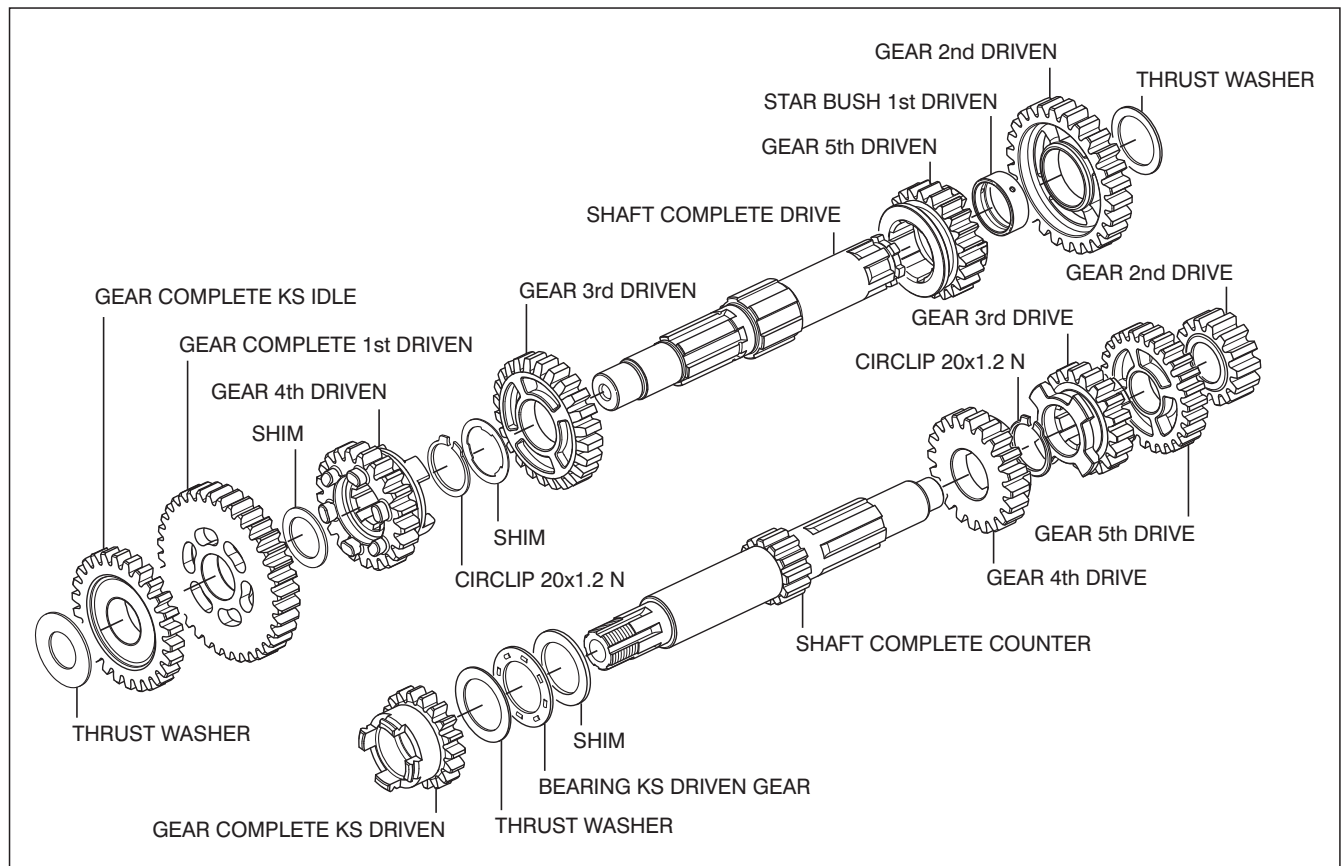

Fig. 3.167
- The exploded view will serve as a reference for correct mounting of the gears, washers and circlips. (Fig. 3.167)